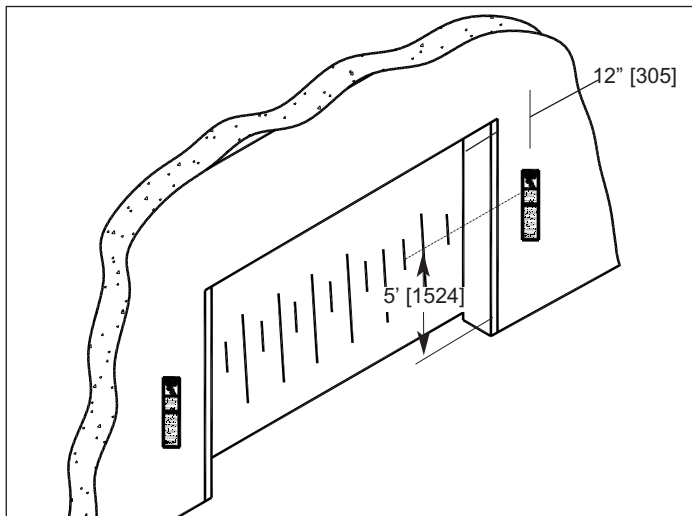

Figure 15.4
1. Clean surface where label is to be placed. Peel off backing on label and apply in position, Figure 15.4.